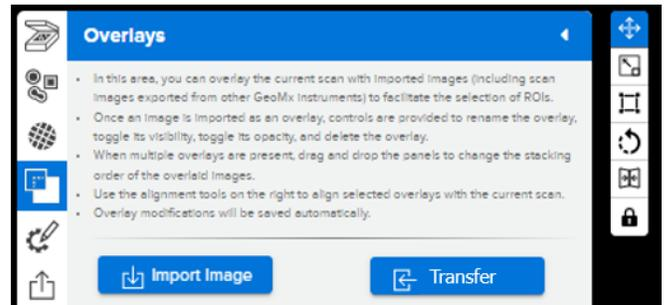

Figure 44: Overlays panel
1. Select the **Overlays** button in the Scan Workspace to open the Overlays Panel (Figure 44).
4. Click **Alignment** in the gray overlay box to reveal alignment tools on the scan (Figure 44). Alignment tools allow you to **Move**, **Scale**, **Resize**, **Rotate**, create a **Mirror Image**, and **Lock** the overlay. Use these parameters or the alignment tools that appear on the scan to adjust the alignment of the selected overlay on the current scan.
1. Open the scan to which you will transfer ROIs in the Scan Workspace, and select the **Overlays** button to open the **Overlays Panel** (Figure 44).